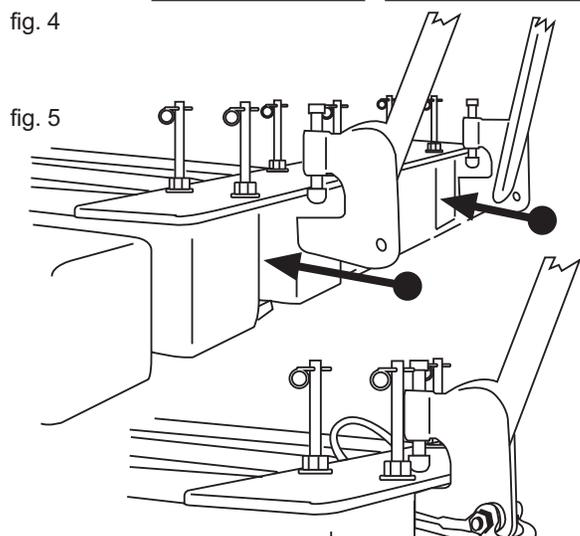

fig. 6
12. As an optional precautionary step, connect a MSA Anchor Sling around the steel girder or base plate connecting both flemish eyes into the 1/2" shackle provided attached to the base of each stanchion bracket leg. (fig. 6) Repeat procedure for all stanchion brackets. MSA Anchor Slings are purchased separately. Please contact your MSA representative for further details.